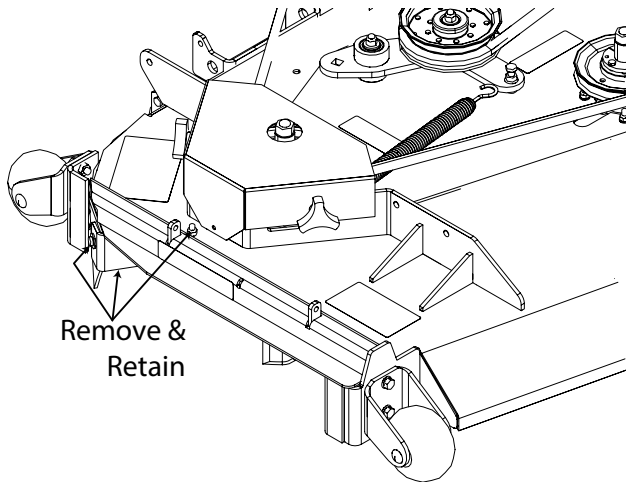

Figure 3-17. Removing the Turbo Baffle
16. Install the block off plate weldment to the front and rear hinge brackets using two (2) 5/16 -18 x 3 1/2" bolts and two (2) 5/16-18 elastic stop nuts. See Figure 3-17. Do not tighten the bolts completely. Secure the hardware so the block off plate weldment moves freely.